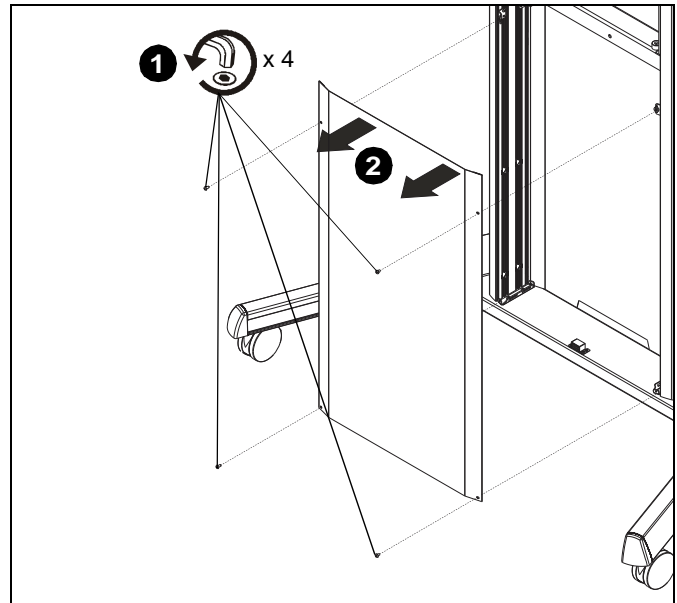

Figure 14
1. Remove four button head cap screws holding front cover to cart. (See Figure 14)
2. Pull front cover away from cart. (See Figure 14)